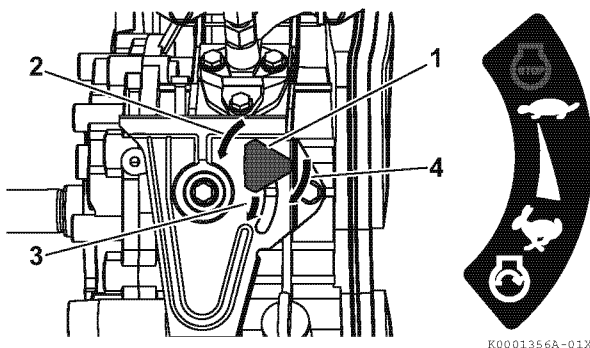

Figure 13
- If your engine speed control is similar to **Figure 13**:
- Turn the engine speed control knob (1, **Figure 13**) to the left (2, **Figure 13**).
- Slide the engine speed control knob to the START position (3, **Figure 13**).
- Turn the engine speed control knob to the right (4, **Figure 13**) to tighten it.